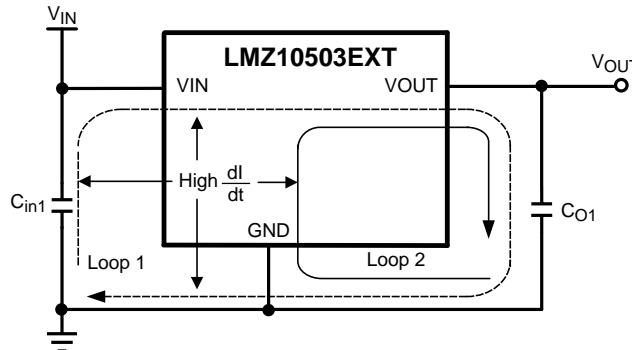

Figure 15. High Current Loops
From an EMI reduction standpoint, it is imperative to minimize the high di/dt current paths. The high current that does not overlap contains high di/dt , see Figure 15. Therefore physically place input capacitor (C_{in1}) as close as possible to the LMZ10503EXT VIN pin and GND exposed pad to avoid observable high frequency noise on the output pin. This will minimize the high di/dt area and reduce radiated EMI. Additionally, grounding for both the input and output capacitor should consist of a localized top side plane that connects to the GND exposed pad (EP).